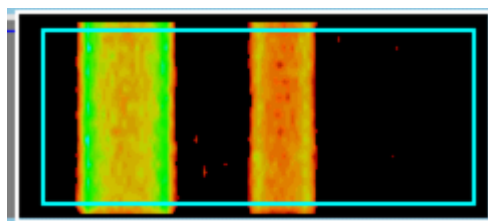

Figure II-6 : “Local BL” at Forearm
8. Draw the Baseline according to Figure II-6.